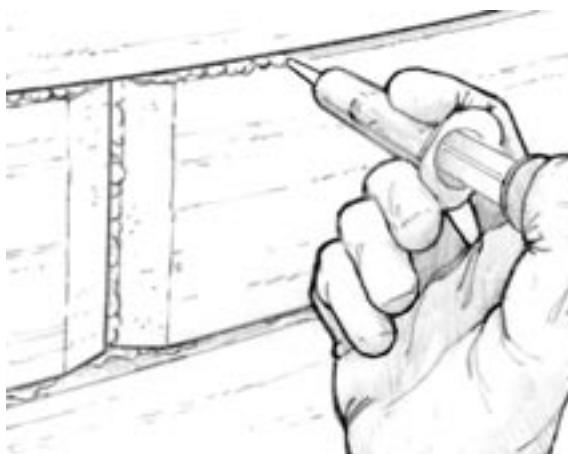

Figure 6-3 Inject epoxy into the wet-out seam.
3. Apply a bead of epoxy/403 or 406 to mayonnaise consistency in the seam. Use a syringe to fill the gap with enough epoxy so that a small amount will squeeze out when the splines are pushed in (*Figure 6-3*).